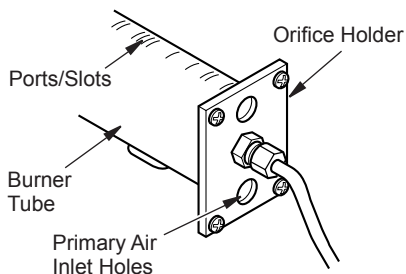

Figure 58 - Orifice Holder On Outlet Burner Tube
2. Inspect burner, pilot and primary air inlet holes on orifice holder for dust and dirt (see Figure 58).